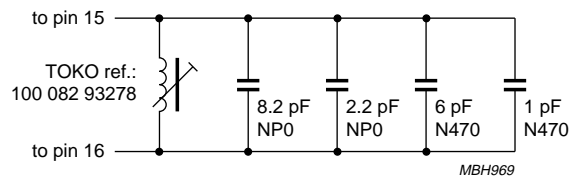
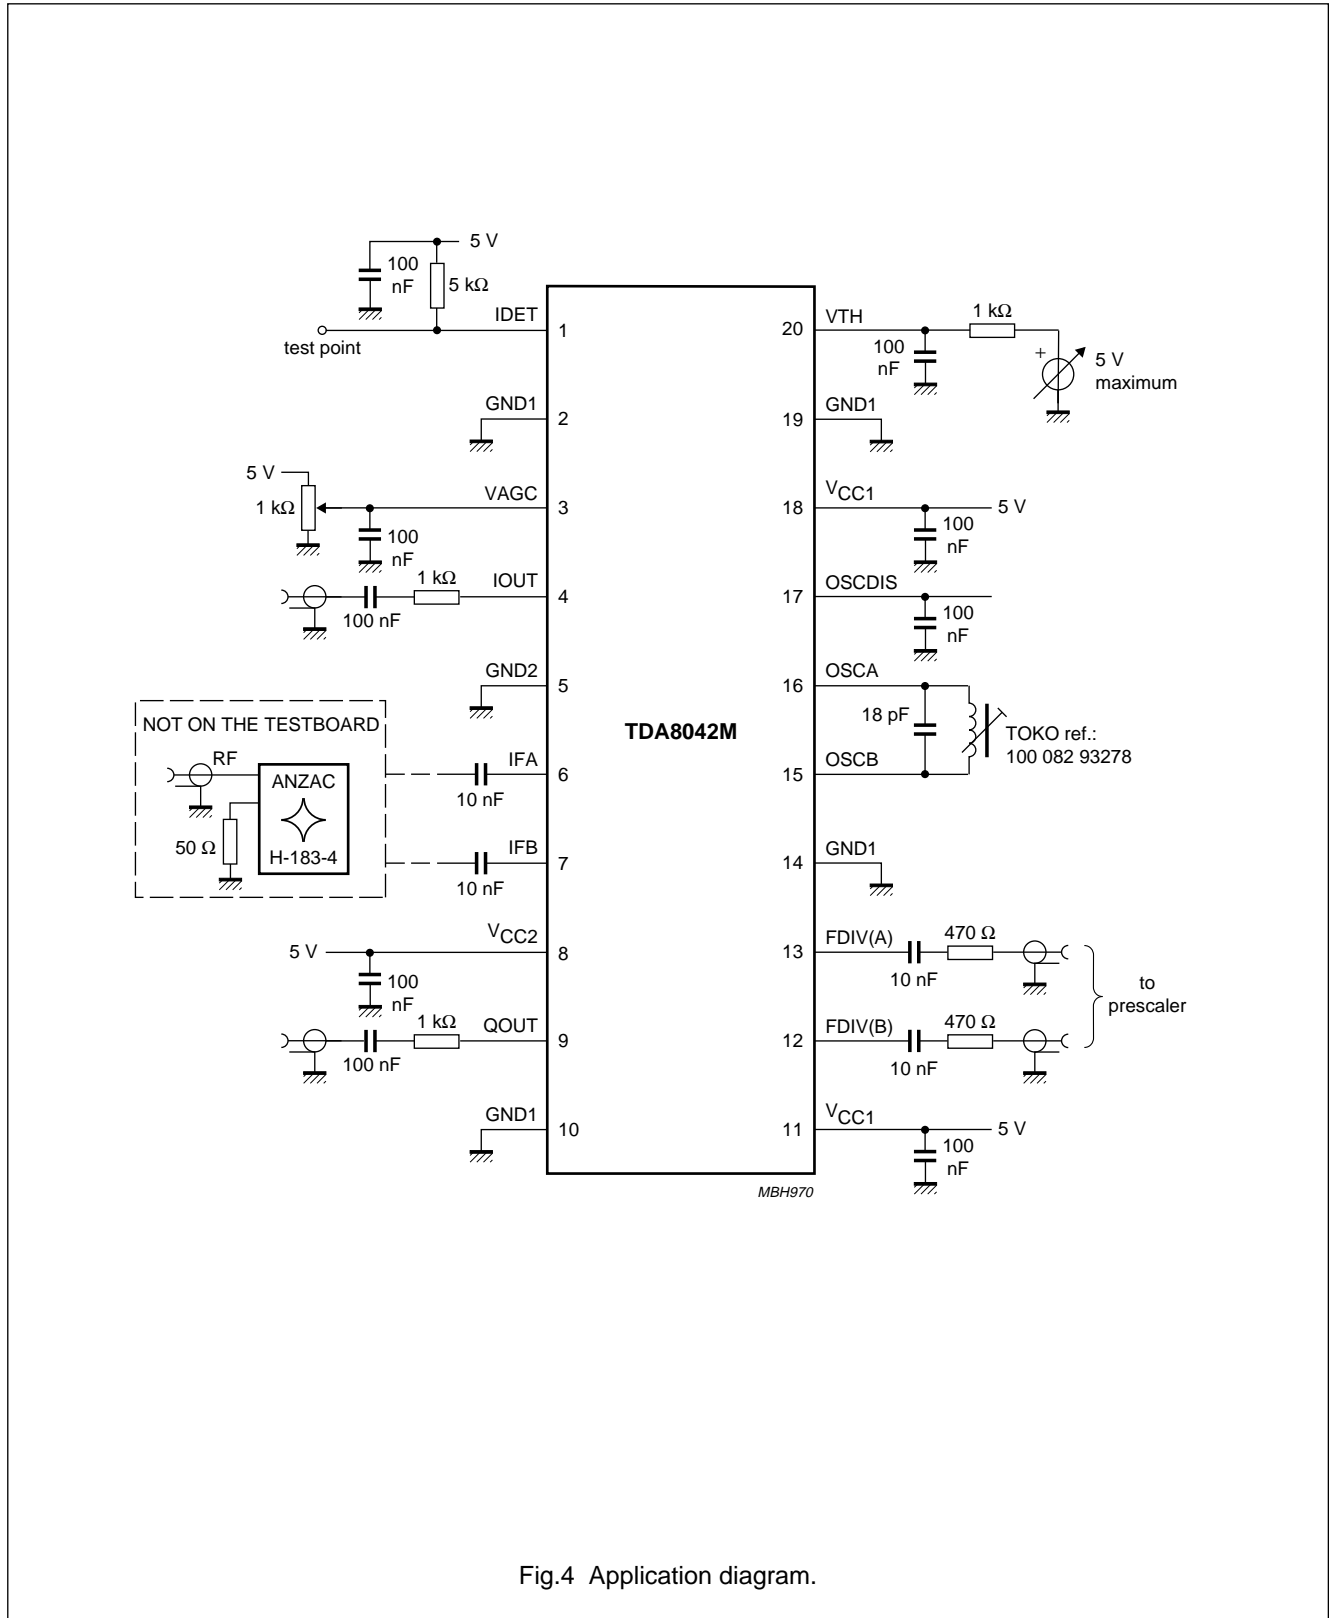

Fig.3 Temperature compensation circuit.
Fig.4 Application diagram.
$V_{CC} = 5\text{ V}$; $T_{amb} = 25\text{ °C}$; $R_{L(IQ)} = 1\text{ k}\Omega$; measured in application circuit of Fig.4; unless otherwise specified.
10. The drift of the oscillator frequency with temperature is defined for $\Delta T_{amb} = 25$ °C. It is measured in the application circuit (see Fig.4) with a temperature compensated tank circuit. The temperature compensation used for this measurement is realized using the application which is depicted in Fig.3.